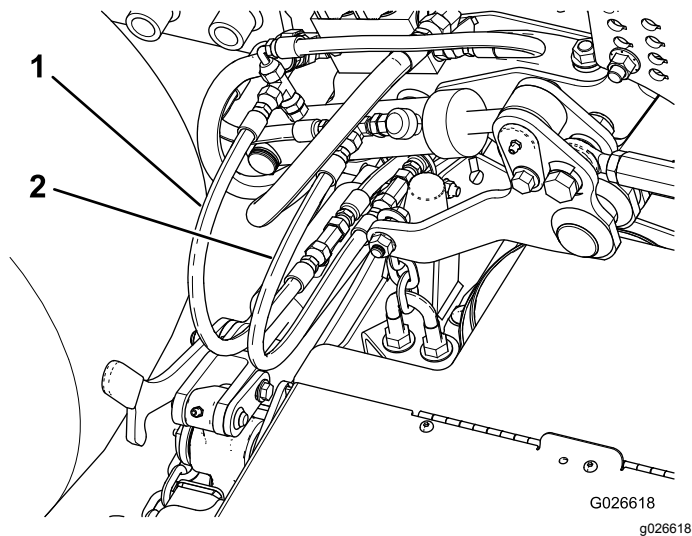

Figure 13
5. Install the short hose supplied in the kit to the outer port on the right wing-lift cylinder (Figure 13).
6. Install the other end of the short hose to the tee fitting on the rear port on the deck-lift cylinder (Figure 13).